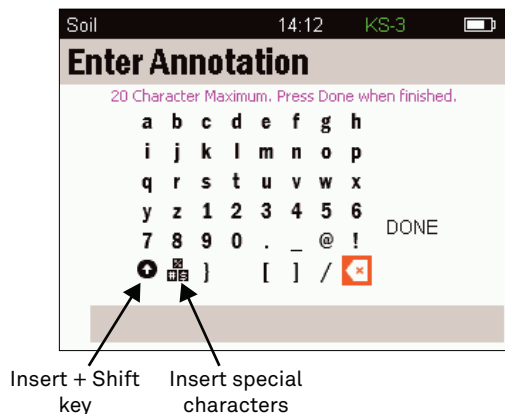

Figure 19 Enter Annotation
- b. Rows 1–12 display information found on the Measurement Finished Screen (Figure 19).